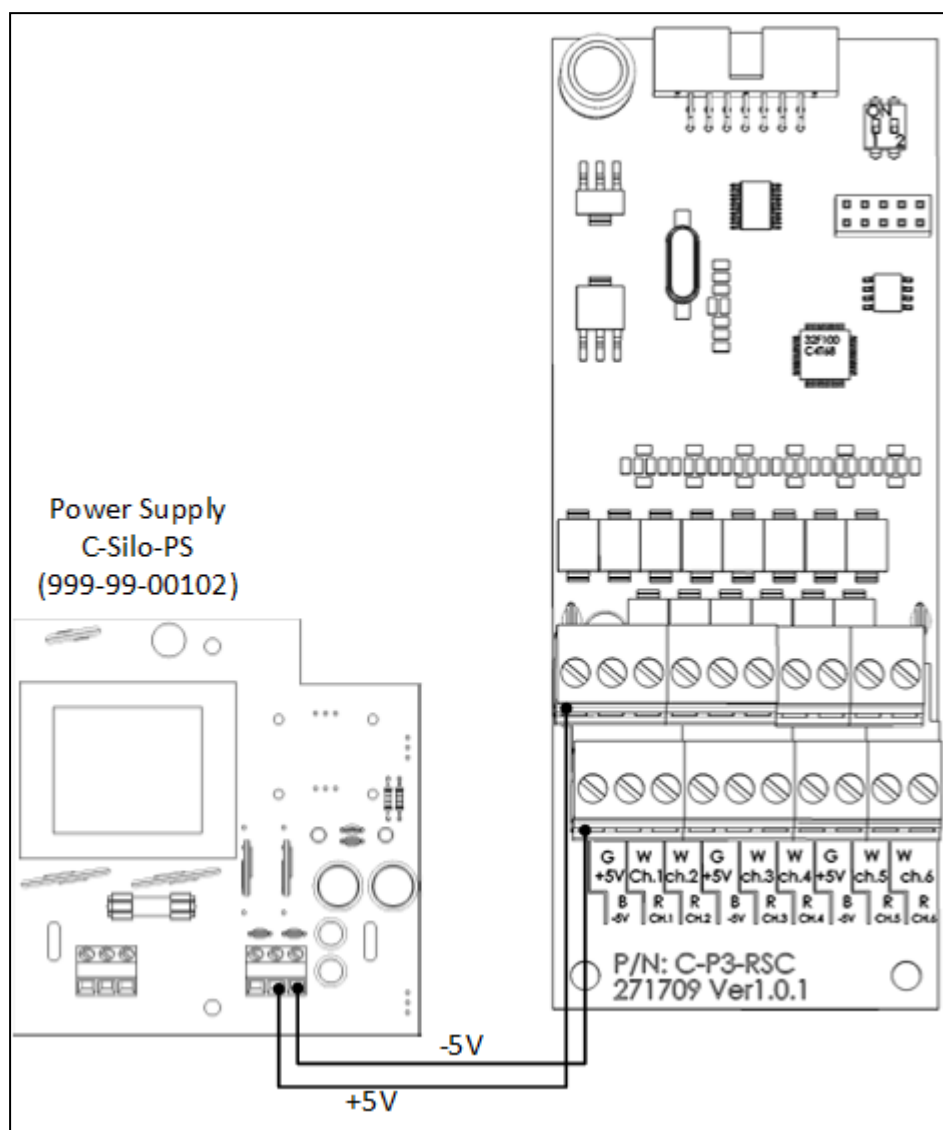

Figure 55: Silo Scale Power
- Refer to Figure 55 regarding the wiring the scale card to the power supply.
- Refer to Figure 55 regarding the wiring to the power supply.